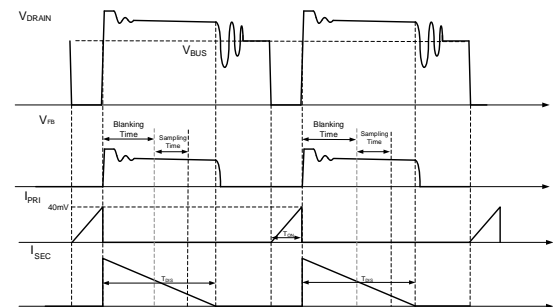
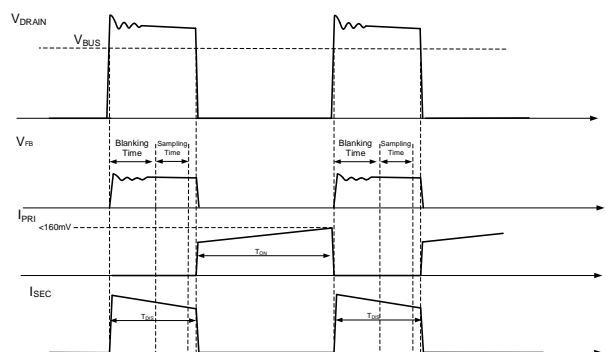

Fig.5 FB Sampling in DCM
Fig.6 FB Sampling in CCM
In order to achieve the primary side constant voltage control, the output voltage is detected by measuring the auxiliary winding voltage using the FB pin during the secondary side output diode conduction period. As shown in Fig.5 and Fig.6, When the secondary-side diode is conducting, the FB voltage can be calculated using equation (1).
Fig.5 shows the FB sample control in discontinuous conduction mode (DCM), Fig.6 shows the FB sample control in continuous conduction mode (CCM).
The SY5609 regulates the primary side MOSFET switching to ensure a peak current always $\geq V_{CS_MIN}/R_{CS}$ in PSR mode, and will start sampling the auxiliary-winding voltage after the power MOSFET is turned off. A blanking time is added to avoid measurement during the ringing caused by the leakage inductance. To guarantee long enough FB sample period, the output diode current conduction time (T_{DIS} in Fig.5 and Fig.6) should always be longer than 600ns in PSR 400kHz mode, and be longer than 800ns in PSR 250kHz mode.
In constant frequency, continuous conduction mode, each switching period cycle t_s consists of two parts: current rising time T_{ON} , current falling time T_{DIS} , as shown in Fig.6.